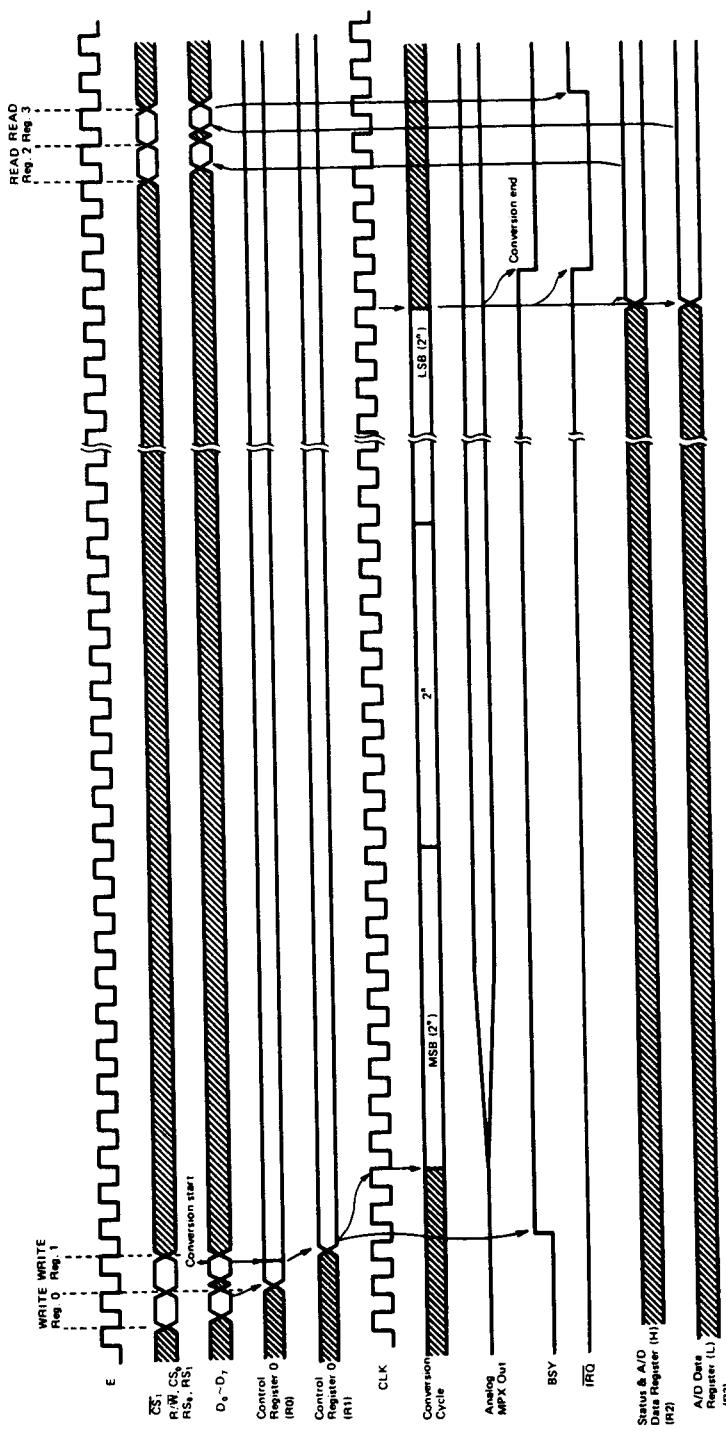

Figure 13 A/D Conversion Timing Chart (Basic Sequence)
**(Note)** Refer to "ADU Function Sequence" (A/D Conversion and PC Sequence) for the timing in which GAINSEL signal becomes "High". GAINSEL signal becomes "Low" in accordance with "1" → "0" change of BSY bit. Refer to Fig. 13.